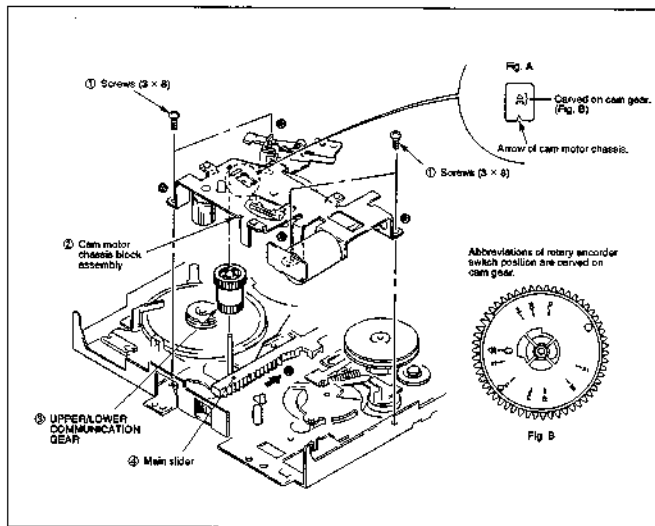

Fig. 3-18
3-16. CAM MOTOR CHASSIS BLOCK ASSEMBLY, UPPER/LOWER COMMUNICATION GEAR (Fig. 3-18)
- 1) Set the mechanism to the loading-end condition referring to 1-1. (Cam gear indicates "LE". (Refer to Fig. A and B of Fig. 3-18.))
- 2) Remove tension spring ① in the order ④ to ③.
- 3) Remove stopper washer (2) ② to pull out TG1 assembly ③.